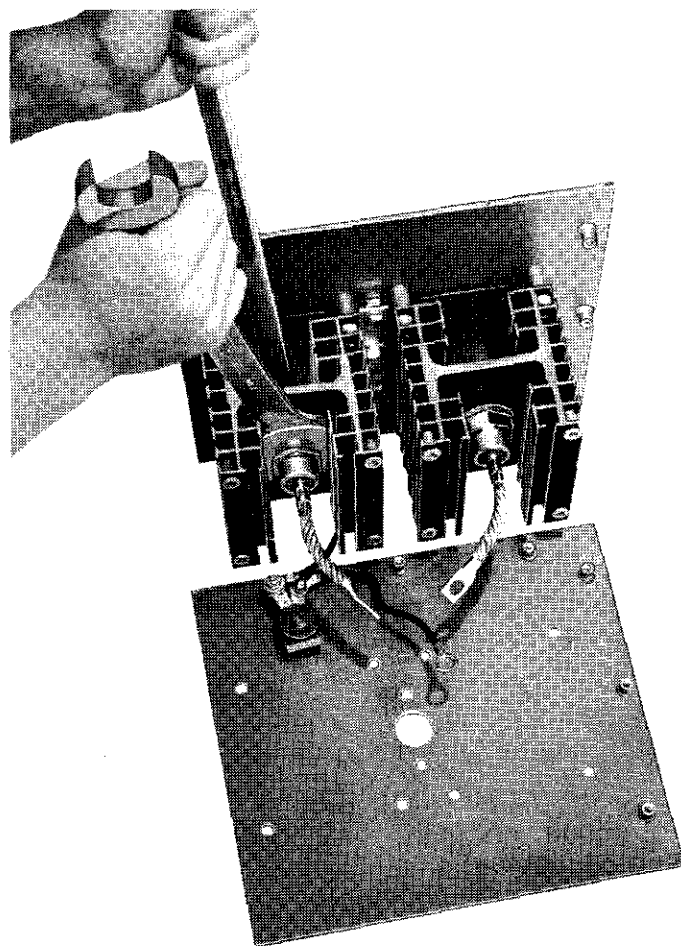

Fig. 4 — Removal Of Diodes From Rectifier Assembly
2. Place a 1-1/4" open end wrench over the lead side of the diode as shown in Fig. 4. This is to keep the diode from rotating when its mounting nut is removed.
3. Remove the locknut from the opposite end of the diode by using a 1-1/16" box wrench as shown in Fig. 4.
Removal And Replacement Of Diodes Mounted On Fluted Heat Sinks, Fig. 4
4. Place a 1-1/4" open end wrench over the lead side of the diode as shown in Fig. 4. This is to keep the diode from rotating when its mounting nut is removed.
5. Remove the "Pal" locknut from the opposite end of the diode by using a 1-1/16" box wrench as shown in Fig. 4.